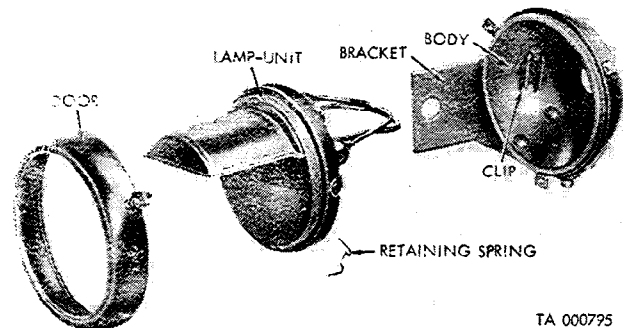

Figure 2-46. Blackout driving light—exploded view.
(1) Unscrew the three screws that secure the blackout driving light door to the body, and pull the door and lamp unit (fig. 2-46) from the body far enough to expose the lamp unit cable connectors.